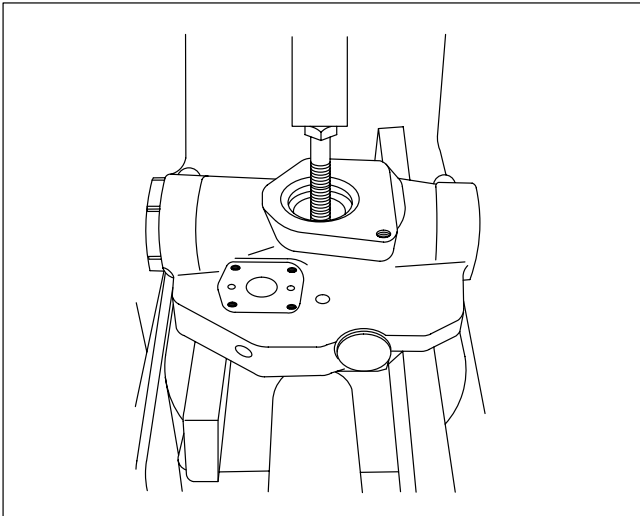
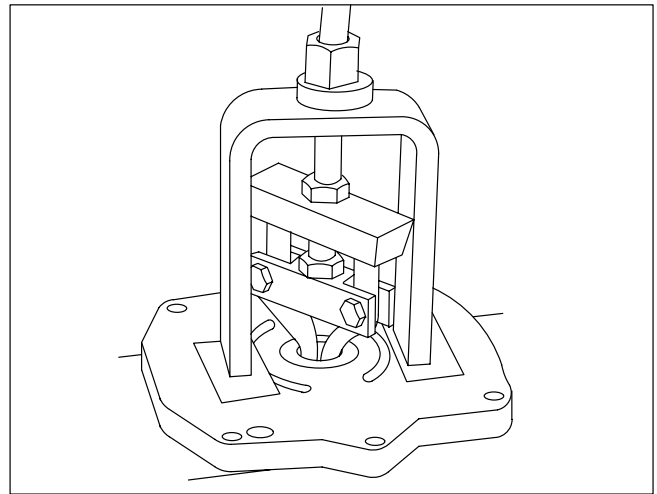

Figure 20. Removal of Bearing Race from Valve Block.
Figure 20a. Removal of Bearing Race from valve Block with Blind Hole.
3. For PVE19/21, remove bearing race (63) from valve block (36). The PVE12 roller bearing is in the valve block. Refer to Figure 20 for removal information and use tool shown in Figure 10 for PVE\*\*G units. Use tool shown in Figure 10a and procedure shown in Figure 20a for PVE\*\* units with a blind hole in valve block (26). BE CAREFUL not to scratch face of the valve block during removal of the race.